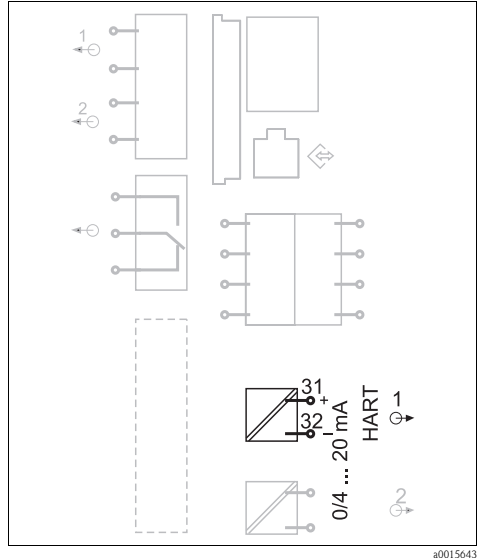

Fig. 2: HART connection on the base module BASE H, L or E
-  2 This symbol stands for a cross-reference to a specific graphic (e.g. Fig. 2).